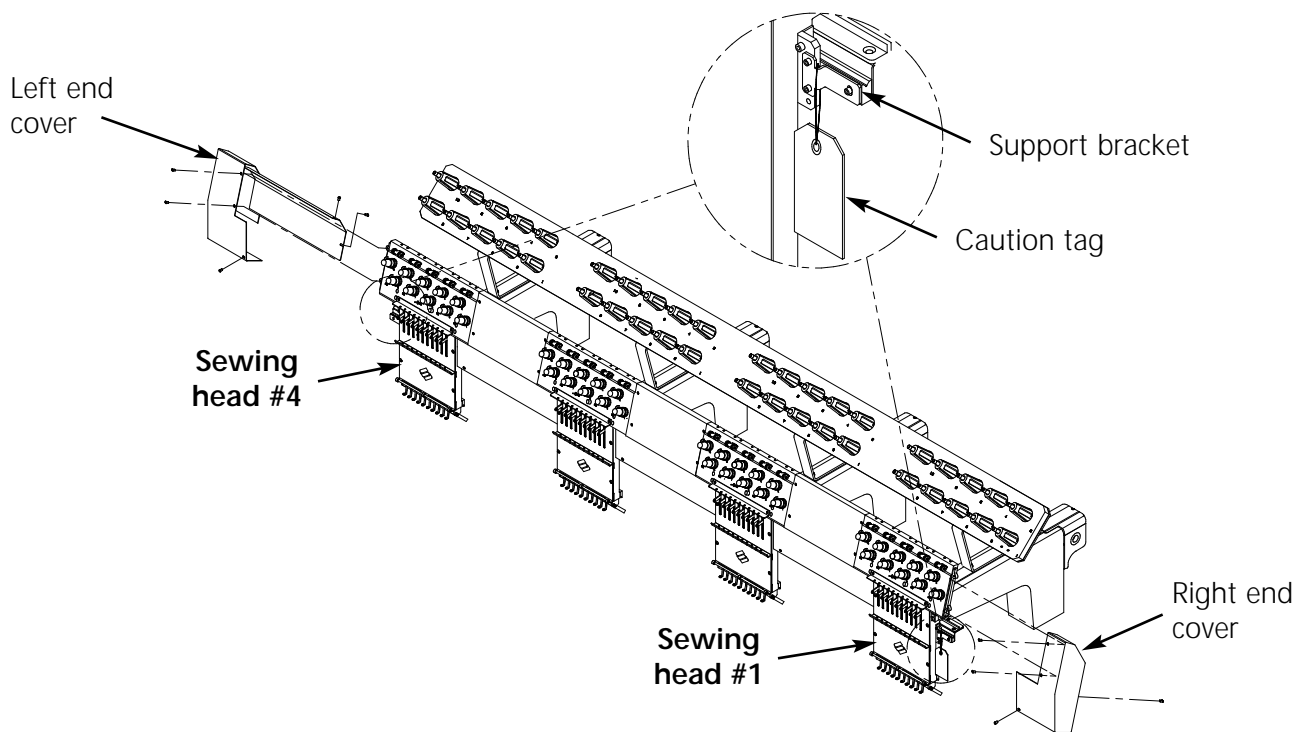

Figure 1-21
1. Remove the two supports (a caution tag is attached to each). Refer to Figure 1-21.
3. Install the left and right end covers, as shown in Figure 1-21. The screws for the covers are installed on the machine.